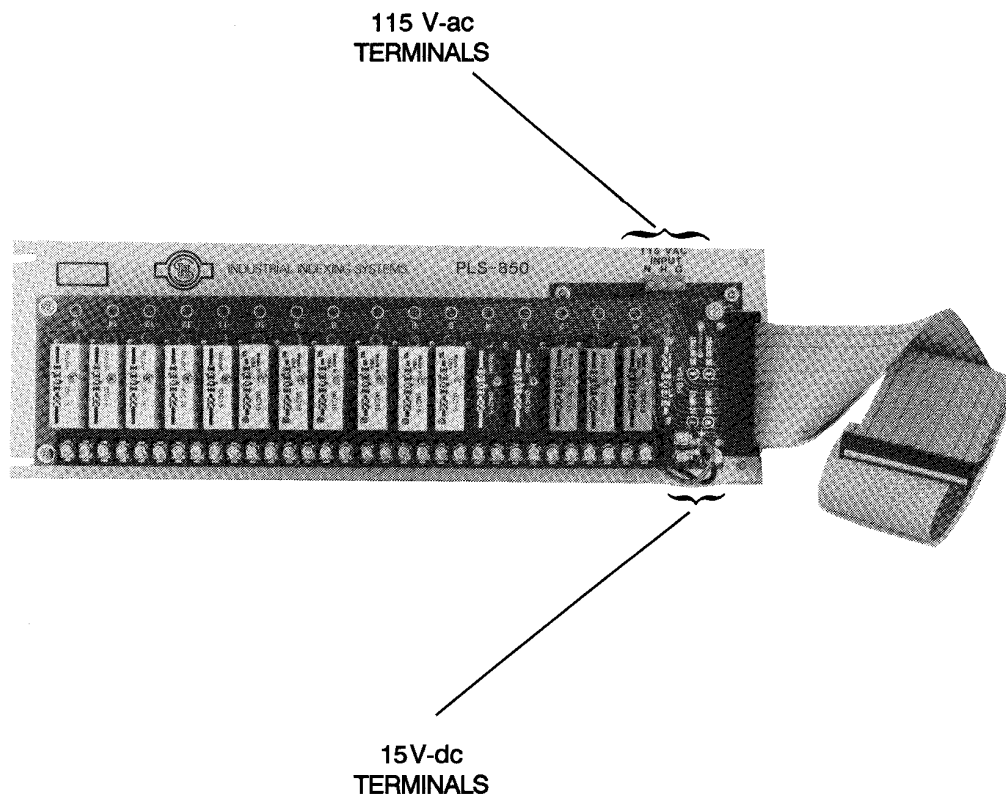

Figure 5-1 Location of AC and DC Test Terminals
- Connect the red and black meter leads to the + and – terminals located next to the ribbon cable connector (Figure 5-1).
- Connect the meter leads to the “N” and “H” terminals (Figure 5-1).